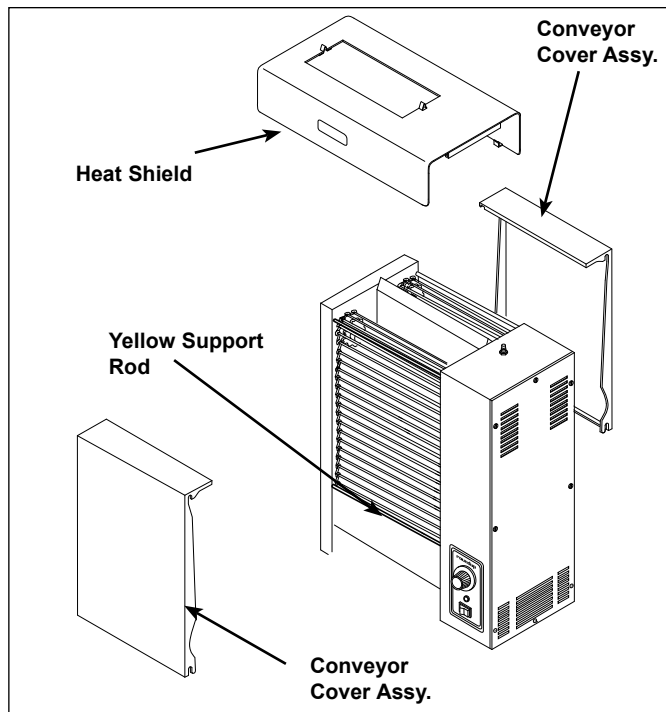

Figure 1. Installing Damper Assy.
1. Remove the Heat Shield and the front and rear Conveyor Covers (Figure 1).
2. Install the Damper Assembly. (Figure 1).